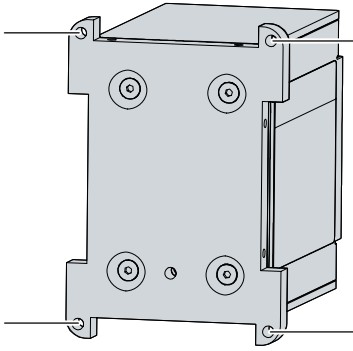

Fig. 15: C9900-U332\_mounting plate
2. Remove the fastening screws at the marked points (see Fig. 15).